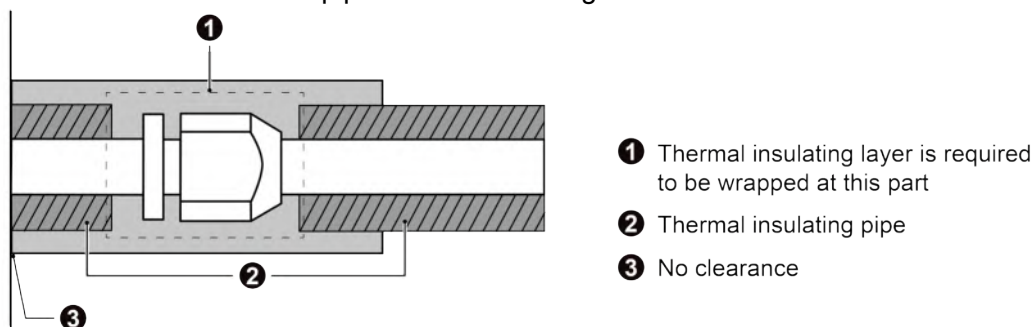

Fig.3.4.7
- 2) Joints at indoor and outdoor units should be wrapped with insulating material and leave no clearance between pipe and wall. See Fig.3.4.7